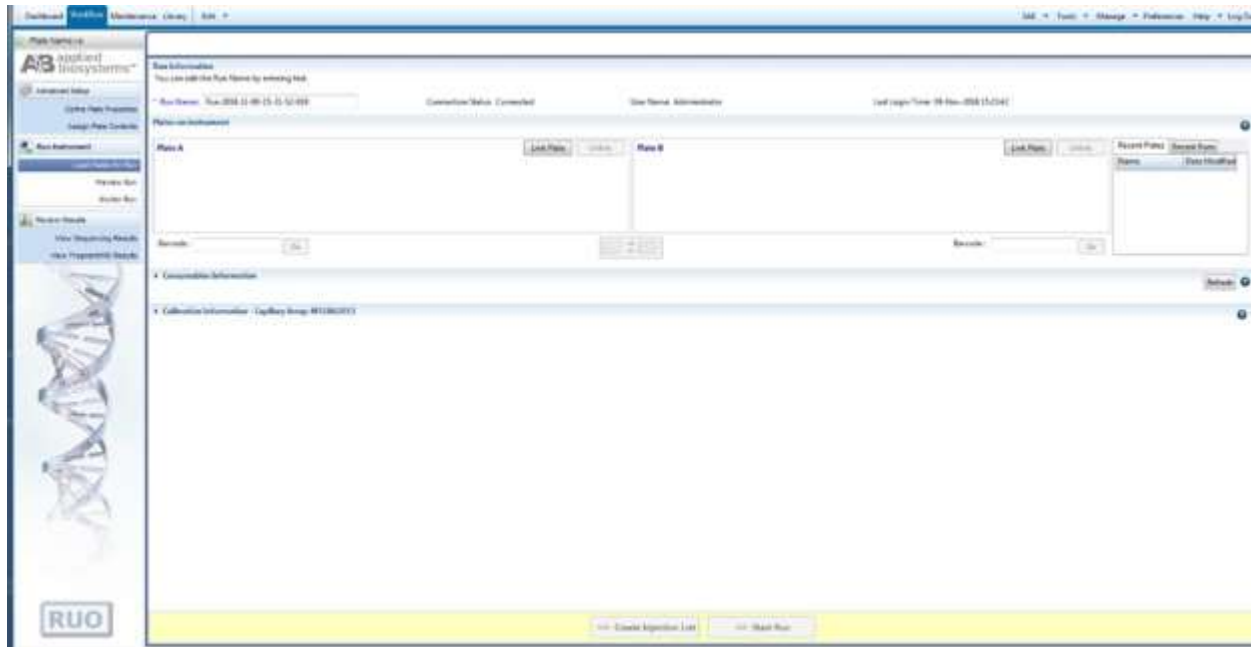

Figure 12. Screenshot for the “Run Information” window on Applied Biosystems 3500 Data Collection software
- In the *Run Information* window, give a *Run* name (Figure 12). Select “Start Run” after loading the plate.